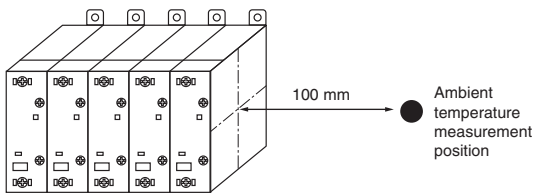
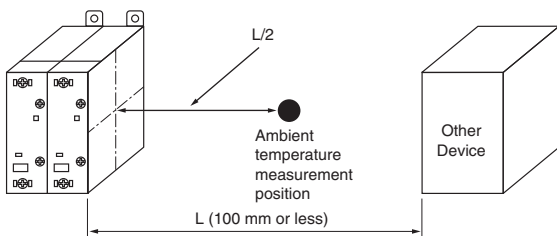
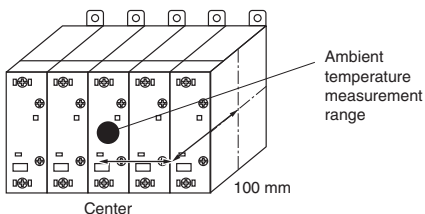

Figure 1: Basic Measurement Position for Ambient Temperature
Figure 2: Measurement Position when a Duct or Other Device is Present
Figure 3: Measurement Position when Side Temperature Cannot be Measured
- (1) Measure the ambient temperature under the power application conditions that will produce the highest temperature in the control panel and after the ambient temperature has become saturated.
- (2) Refer to Figure 1 for the measurement position. If there is a duct or other equipment within the measurement distance of 100 mm, refer to Figure 2. If the side temperature cannot be measured, refer to Figure 3.
- (3) If more than one row of SSRs are mounted in the control panel, measure the ambient temperature of each row, and use the position with the highest temperature. Consult your OMRON dealer, however, if the measurement conditions are different from those given above.